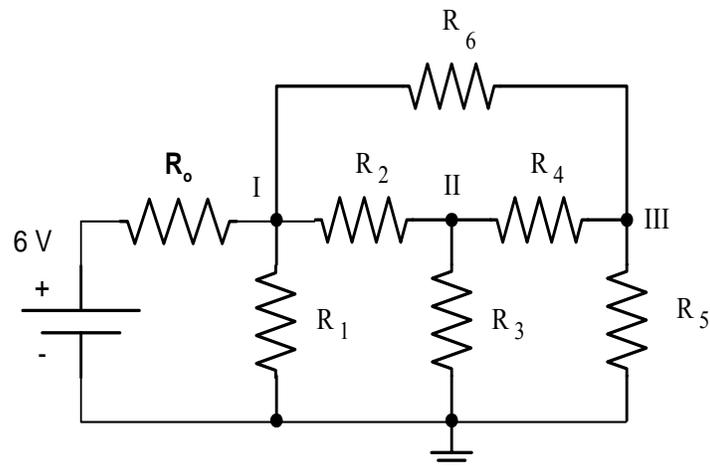

Fig. 1. The circuit for the nodal analysis.
1. Construct the circuit of Figure 1. Use the following resistors.